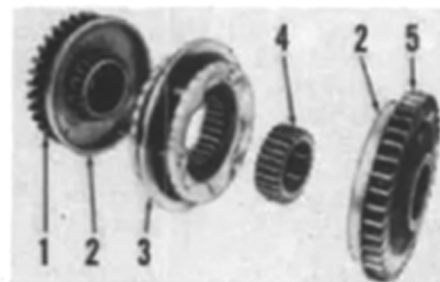

Fig. 78—Exploded view of the synchronizer used in the speed transmission. Items 2 and 3 are available only as an assembly.
A speed shift hub (4—Fig. 78) is used between first and second gears and between third and fourth gears in the synchronizers. Cups (2) and synchronizer (3) are available only as an assembly.